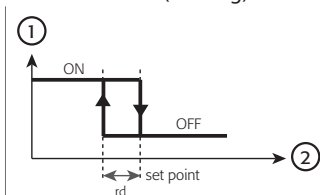

Fig. 4.a
- r3=0: direct with defrost. Used to request the activation of the compressor when the temperature measured by probe 1 rises above the set point. This mode also includes defrost (also called "cooling" mode, see Fig. 4.a)
- r3=1: direct without defrost (Fig. 4.a)
- r3=2: reverse without defrost (Fig. 4.a). Used to request the activation of the compressor when the temperature measured by probe 1 falls below the set point. This mode does NOT include defrost (also called "heating" mode, see Fig. 4.a).